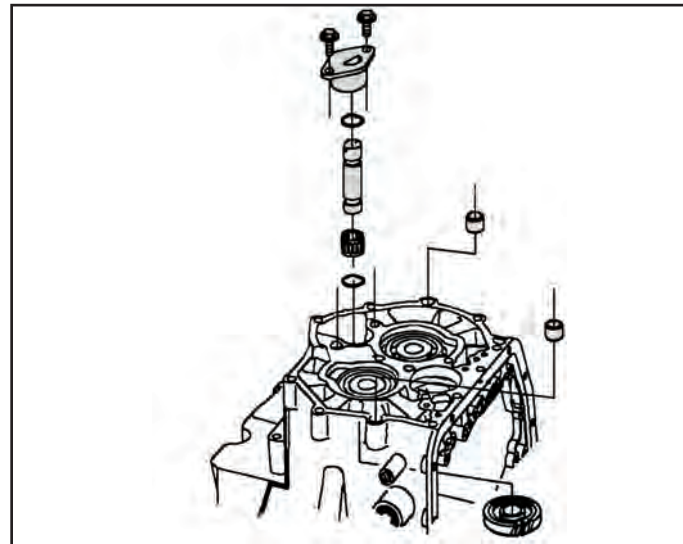

Figure 80
- retaining bolts and lift the cap from the case (See Figure 80).
34. Once the cap is removed, reach inside the case to hold the reverse idler gear while pulling out the reverse idler gear shaft (See Figure 80).
35. Once the shaft has cleared the case, the reverse idler gear and bearing can be removed from the case (See Figure 80).
36. It is advised to remove the rear cover dowel pins as a safety precaution to prevent any possible damage to the dowel pins during the case cleaning and rebuilding process (See Figure 80).